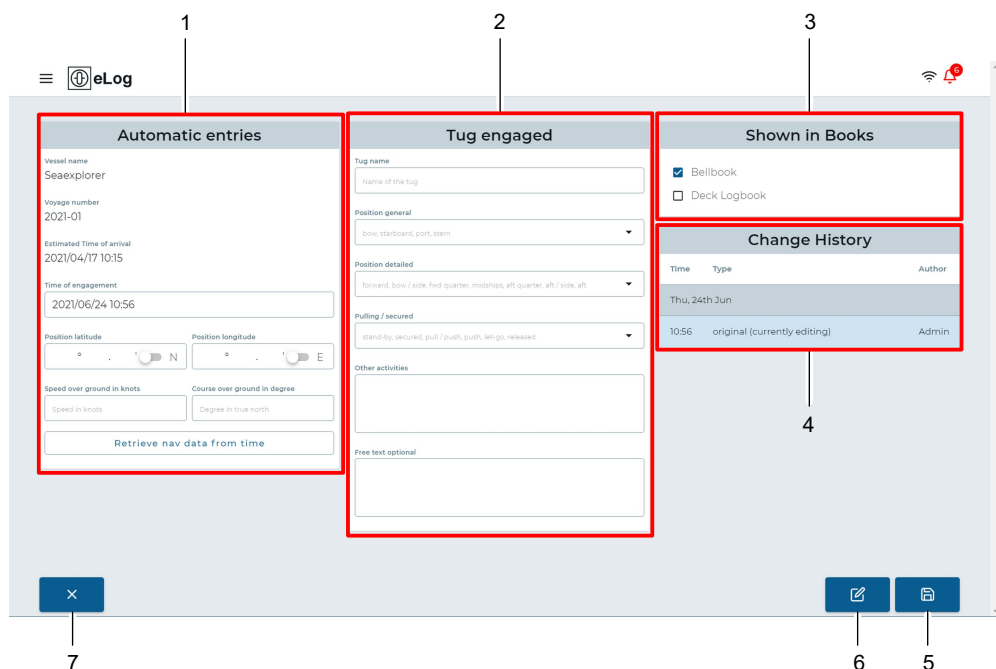

Fig. 4: Logbook Record
- ▶ The page with the form for the logbook record opens, see Fig. 4.